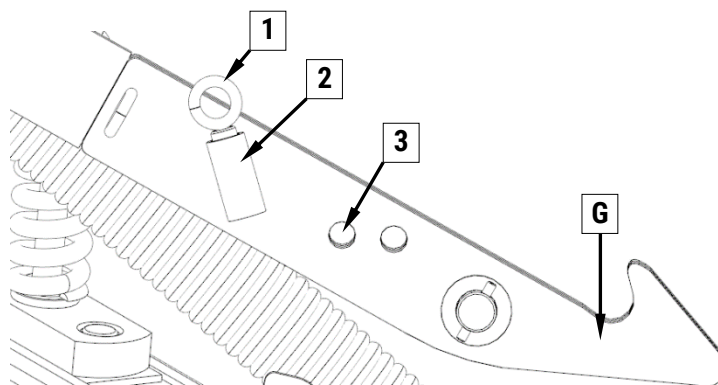

Fig. 10. 1 - pin, 2 - bush, 3 - hole in the bar, G - lock
Before disconnecting the mower put the pin 1 into the hole 3 in the bar (Fig. 10) to secure the linkage against falling. When the mower is connected the pin should be in the bush 2 on the middle bar.
- ❑ remove the pin **1** and put it into the bush **2** (**Fig. 10**),
- ❑ lift the cutterbar by hydraulic cylinder vertically until the pawl **G** locks in (**Fig. 10**),
- ❑ tighten the cord until the lock **G** is released (**Fig. 10**) and by means of hydraulic cylinder put the mower into horizontal position,